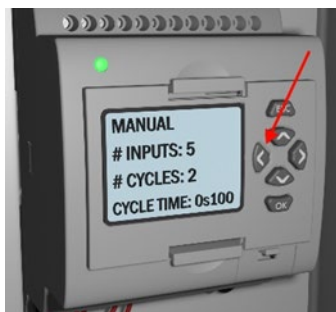

Figure 5
2. **Manual** – This will turn the spray system on for one full cycle and will only operate when the left arrow (<) is pressed (see *Figure 5*). Manual mode should be used for setup, testing, and troubleshooting.